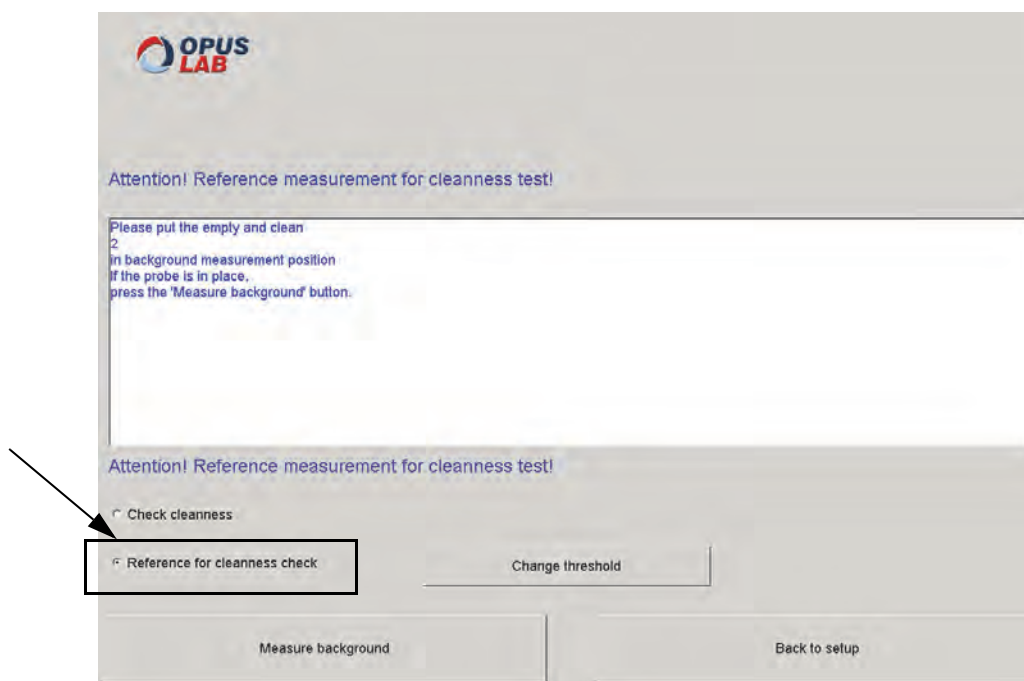

Figure 70: Reference measurement for cleanliness test
- 5) Activate the *Reference for cleanliness check* option button in this dialog (figure 70).